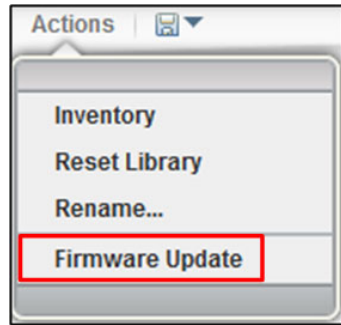

Figure 4-149 Firmware Update
1. From the System page of the TS4500 management GUI, select **Actions** → **Firmware Update**, as shown in Figure 4-149.